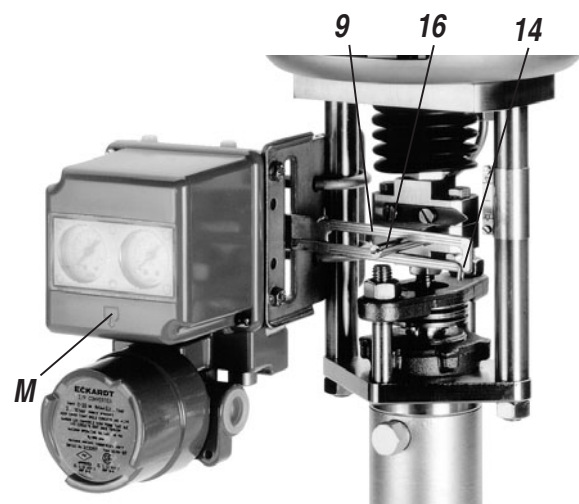

Fig. 12: Actuator with pillars (mounting side left)
- Screw the carrier bolt **16** into actuator coupling (see Fig. 12).
- Fasten housing cover in such a way that air vent of attached device faces downwards** (see Mark 'M' in Fig. 12).